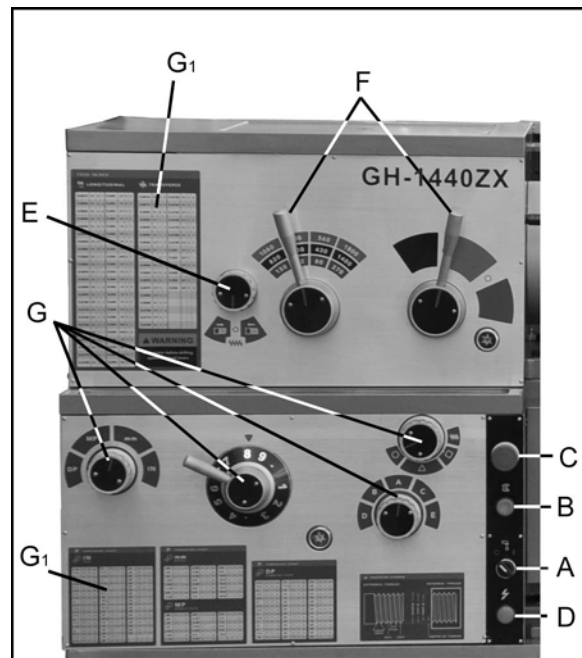

Figure 15 – Headstock controls
Power is connected properly when rotation of the forward-reverse knob (see E, Figure 15) to the left position causes the spindle to rotate counterclockwise as viewed from the tailstock. If the chuck rotates in the clockwise direction, disconnect the lathe from the power source, switch any two of the three power leads (not the green ground wire), and re-connect the lathe to the power source.
- **Coolant On-Off Switch (A, Figure 15)** turns coolant pump on and off.
- **Power Indicator Light (D, Figure 15)** is lit whenever lathe is receiving power.
- **Emergency Stop Switch (C, Figure 15)** stops all machine functions (**Caution:** Lathe will still have power). Twist clockwise to re-set.
- **Jog Switch (B, Figure 15).** Quickly press and release to rotate the spindle.
2. **Headstock Gear Change Levers (F, Figure 15):** Move levers left or right to desired spindle speed, according to accompanying chart.
3. **Leadscrew/Feed Rod Directional Dial (E, Figure 15):** Changing knob changes direction of feed.
- ⚠CAUTION** Do not move knob (E) while machine is running.
4. **Feed/Lead Selector Levers (G, Figure 15):** Used conjunctively to set up for threading or feeding, according to the accompanying chart (G₁, Figure 15).